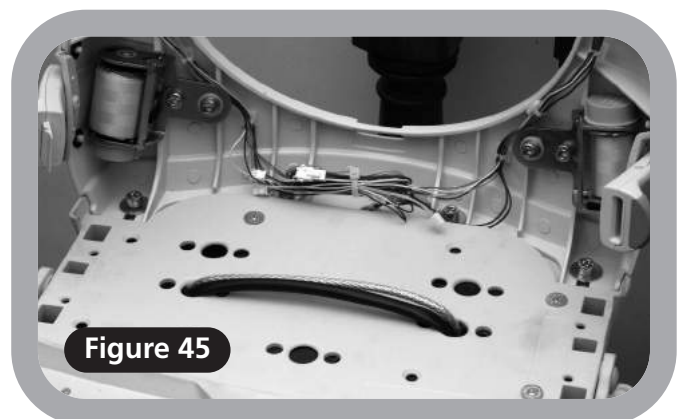

Figure 45
- 3 Tidy the cables to the back of the seat (**Figure 45**).